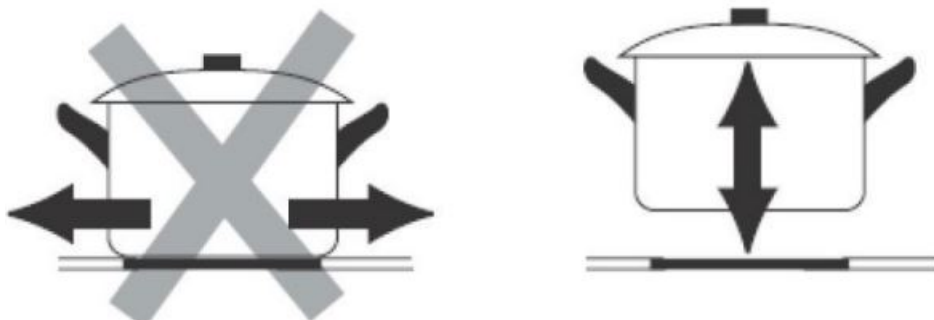

Fig. 5
- Coarse bottoms of cookware could scratch the ceramic glass plate. Check the cookware bottom regularly. Cookware with coarse bottom can cause scratches of the hob. Always lift these objects up when you have to move them on the cooking surface (Fig. 5), To protect the hob from being scratched.